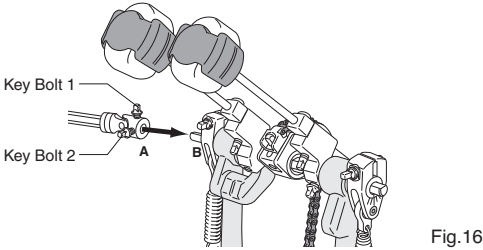

Fig.16
Connect the ends of the Drive shaft (A) to the short extensions (B) on the Main Pedal (Fig.16). Tighten the Key Bolts with a Tuning Key in order of the top (Key Bolt 1) and then the side (Key Bolt 2) and secure.